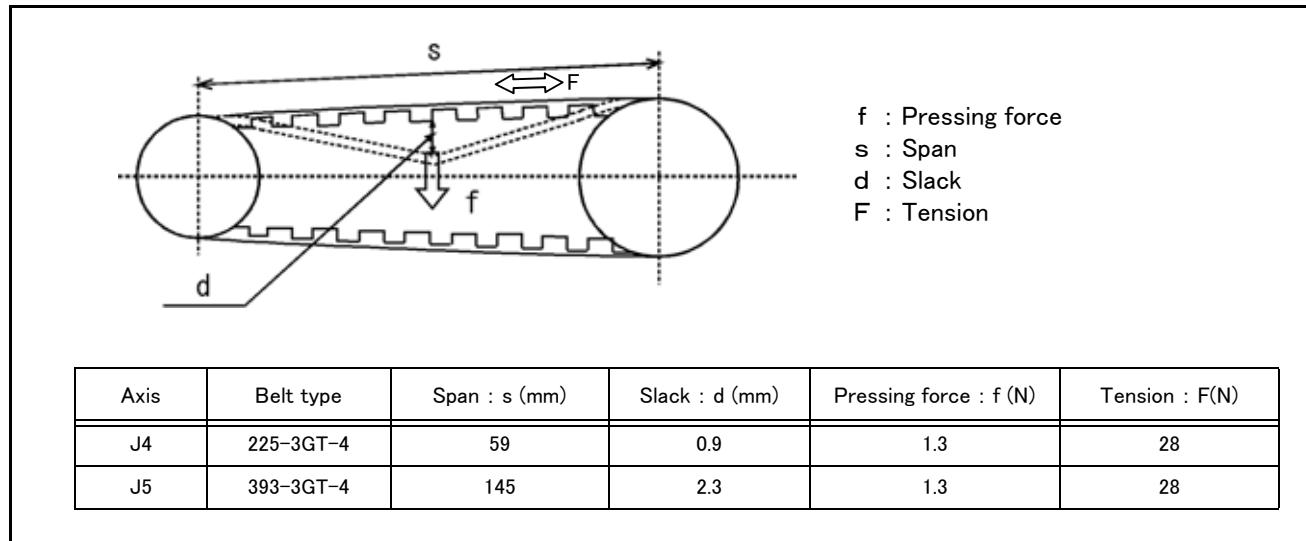

Fig.5-13 : Belt tension
- 4) Confirm that the belt tension is adjusted to slacken approx. 0.9mm when the center of the belt is lightly pressed with a finger (approx. 1.3N) as shown in "Fig.5-13 : Belt tension".
- 4) Confirm that the belt tension is adjusted to slacken approx. 2.3mm when the center of the belt is lightly pressed with a finger (approx. 1.3N) as shown in "Fig.5-13 : Belt tension".
The detailed adjustment (tension) is shown in Fig. 5-13.